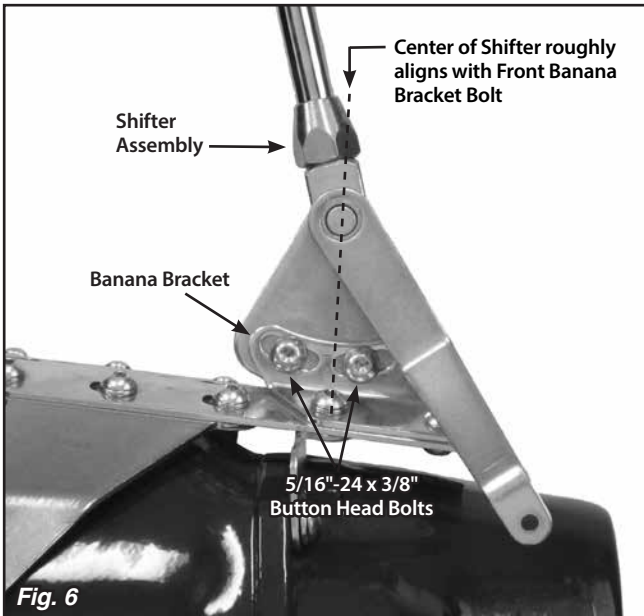

Fig. 6
Step 8: (Continued) Transfer that measurement to the transmission (or to the engine/transmission assembly if the engine is not installed in the vehicle). Mark that location on the shifter's main plate. The holes in the main plate that are closest to your mark are where the **FRONT** banana bracket bolts will need to be installed. **Fig. 6**
Step 10: Make sure the two 5/16"-24 x 3/8" button head bolts that attach the left side banana bracket to the shifter assembly (in the curved, slotted holes) are tight. Before tightening the shifter assembly down to the main plate, move the shifter lever through all of the gear positions. Make sure that the shifter lever and knob do not come in contact with the dash or the seat. The shifter assembly can be tilted forward or backward if needed by loosening the 5/16"-24 x 3/8" button head bolts in the curved, slotted holes in the left side banana bracket. **Fig. 6**
Double check to make sure that the bolts connecting the **left** side banana bracket to the shifter assembly are tight. **Fig. 6**